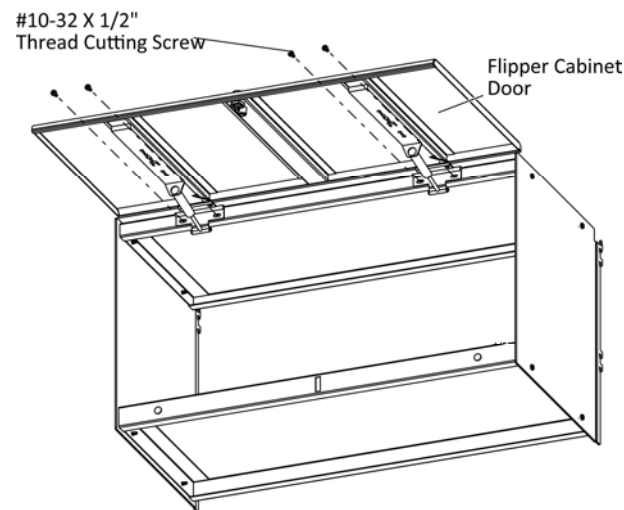

Figure 3
- Securely fasten the flipper cabinet door to flipper cabinet top with #10-32 X 1/2" Thread Cutting Screw, (Figure 3).